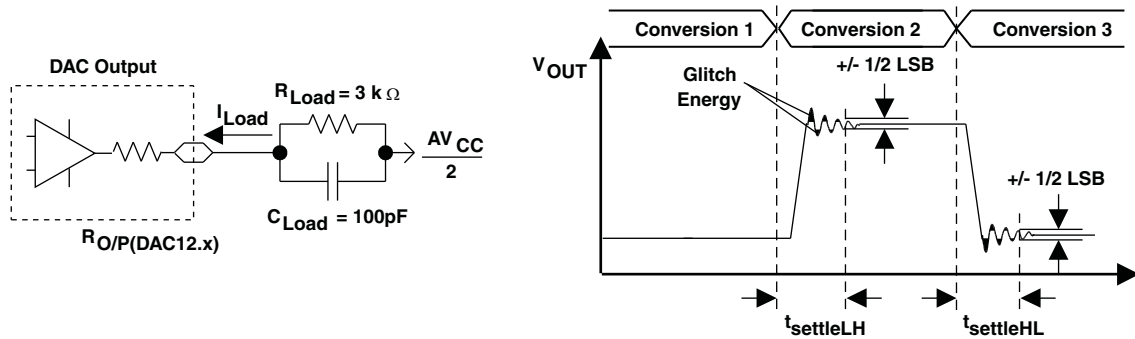

Figure 48. Settling Time and Glitch Energy Testing
- (1) R_{Load} and C_{Load} are connected to AV_{SS} (not $AV_{CC}/2$) in Figure 48.
- (2) Slew rate applies to output voltage steps ≥ 200 mV.
- (3) $R_{LOAD} = 3$ k Ω , $C_{LOAD} = 100$ pF